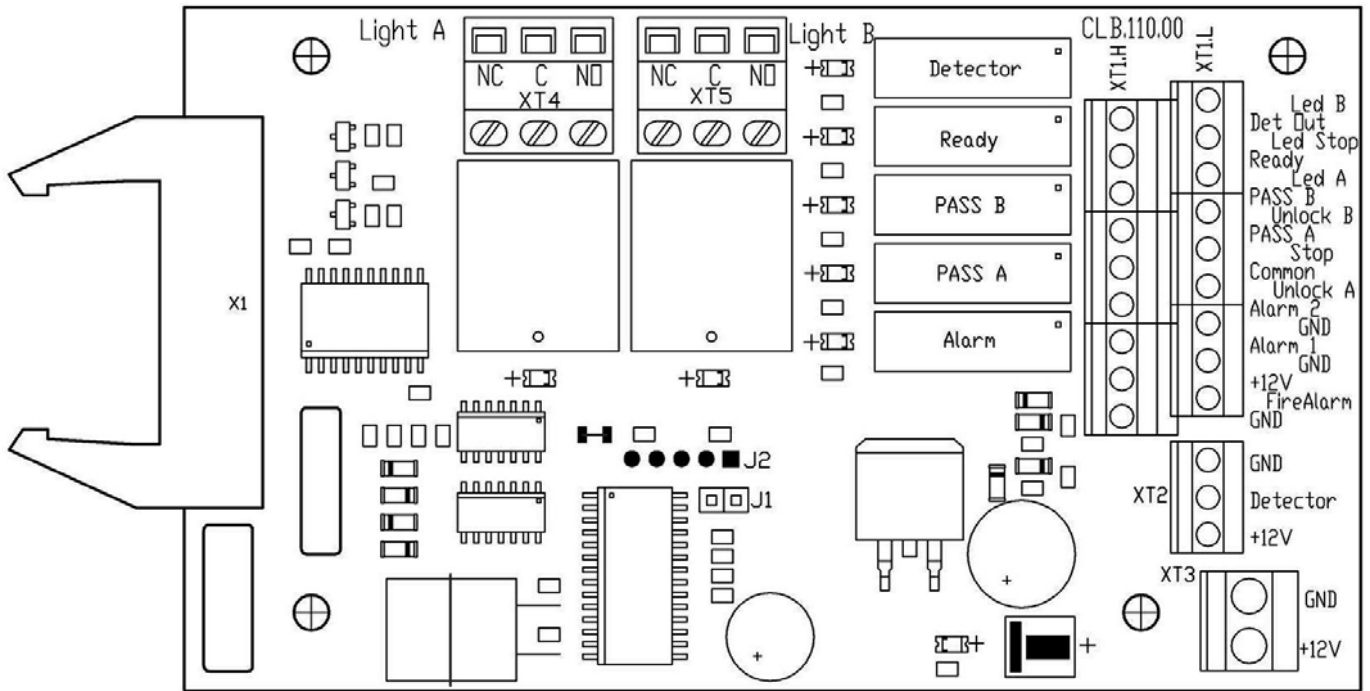
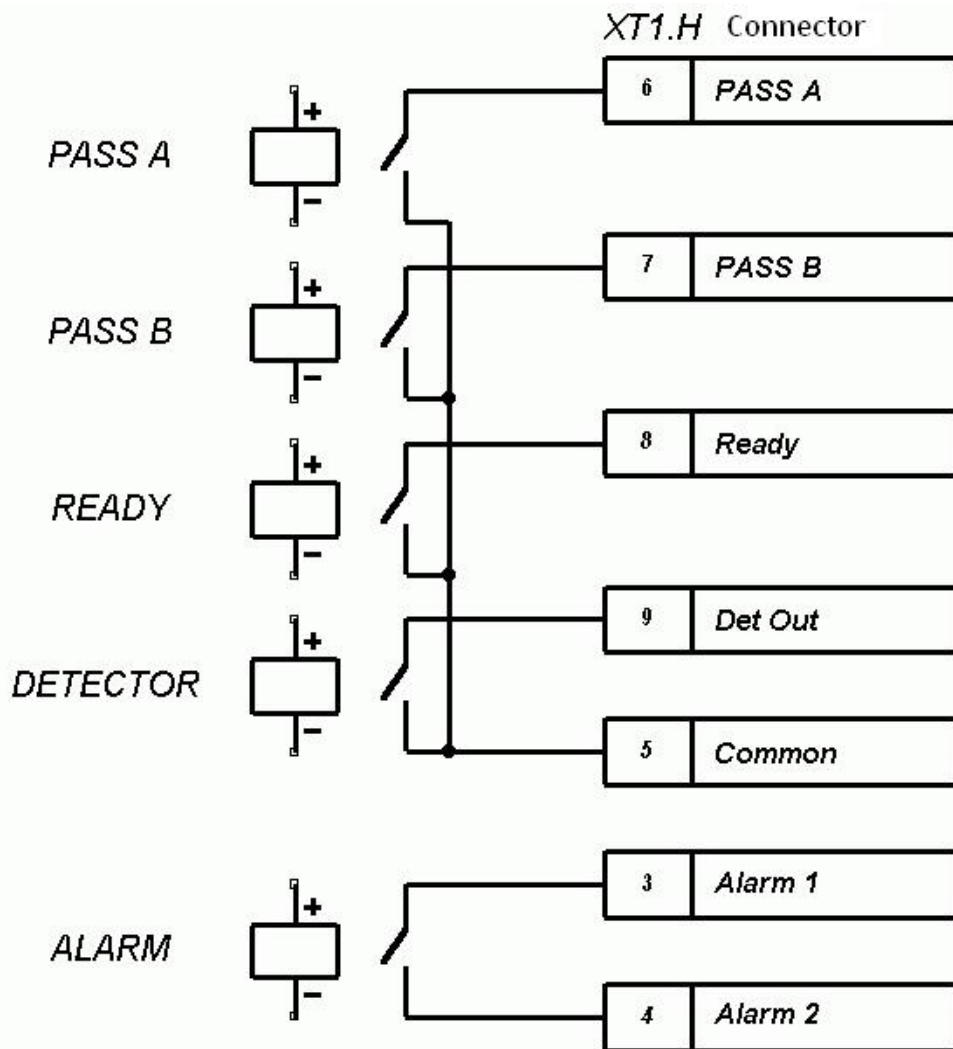

Figure 3 – The CLB
Figure 5 – Output cascades for PASS A, PASS B, Ready, Det Out and Alarm
6.2.3 Inside the turnstile housing there is a bracket with a CLB mounted on it with terminal clamps for connection of external devices. RC panel, ACS outputs, wireless remote control device (when used), intrusion detector (optional) and emergency unblocking device are connected to the CLB. Connection lines of a power supply unit and signal lines of card readers are connected to the terminal clamps for connection of external devices. External devices are connected in accordance with connection layout (Ref. Fig. A.1 Appendix A). Layout of electrical connections inside the turnstile housing is shown in Figure A.2 Appendix A. The CLB is shown in Figure 3.
6.2.4 The remote control panel is designed as a small desktop device with a shock-proof ABS plastic case and is intended for setting and indicating operating modes when the turnstile is operated manually. The RC panel is connected to the CLB with a flexible multicore cable (17) via a "XT1.L" connector block (Ref. Fig. 3).
The RC panel orientation towards the turnstile (if an operator's terminal is placed at the backside of the turnstile housing) can be changed by swopping wires of the RC panel connected to the contacts: Unlock A and Unlock B respectively, as well as Led A and Led B respectively (Ref. Fig. 3 and A.1 Appendix A).
**6.2.5 The CLB (Ref. Fig. 3) houses:**
6.3.7 Pin assignment of the CLB connector blocks are given in Figure 3 and on a label located on the inner surface of the turnstile top cover.
Detector and Alarm relays is indicated by lighting/going out of red indicators located near the corresponding relays (Fig. 3). The output cascades for “PASS A”, “PASS B”, “Ready”, “Det Out” and “Alarm” are the relay contacts with the following signal characteristics (Ref. Fig. 5):
- 6.5.2 The control mode is set by the jumper on a J1 connector (the J1 connector location is shown in Figure 3: the jumper is installed – the pulse control mode, the jumper is not installed – the potential control mode). The jumper is installed at delivery.
- 6.9.2 The intrusion detector is connected to the “XT2” connector block, and the siren is connected to the “XT1.H” connector block of the CLB according to the connection layout (Fig. A.1 Appendix A and Fig. 3). The intrusion detector should have normally closed contacts.
A signal on current status of the intrusion detector is constantly transmitted to the “Det Out” and “Common” contacts of the CLB “XT1.H” connector block (Fig. 3).
6.9.3 The emergency unblocking device is connected to the “XT1.L” connector block of the CLB in accordance with the connection layout (Figure A.1 Appendix A and Figure 3). If the “Fire Alarm” input is not used, it is necessary to install a jumper between the contacts “Fire Alarm” and “GND”. This jumper is installed at delivery.